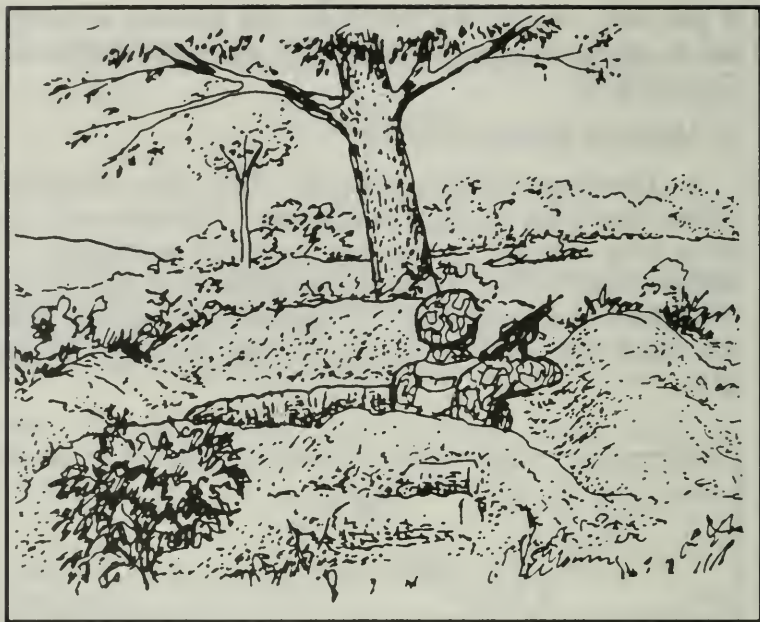

Figure 219. One-man modified fighting position.
a. One-man fighting position. This type of position allows flexibility in the use of cover. The hole only has to be long enough for one man and his equipment. A soldier must be able to shoot to both the front and oblique from behind frontal cover. The one-man position does not have the security of a two-man position (Figure 219).